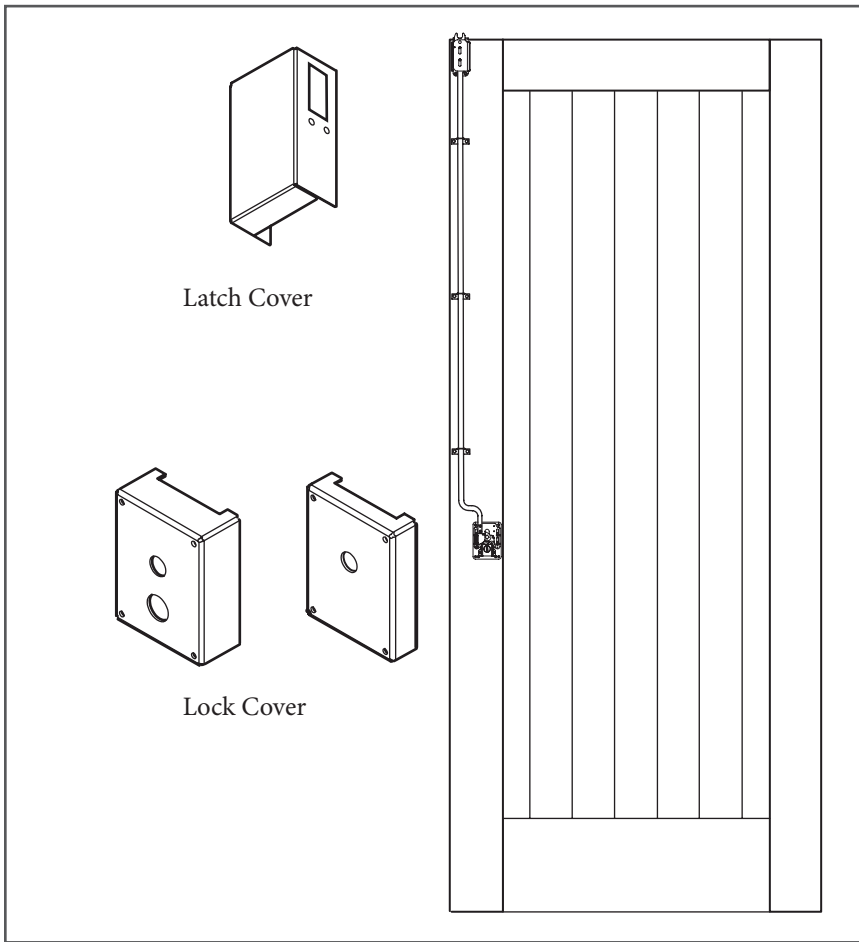

Figure 16
28. Install the latch cover over the latch, fastening with four screws (provided) (Figure 16).